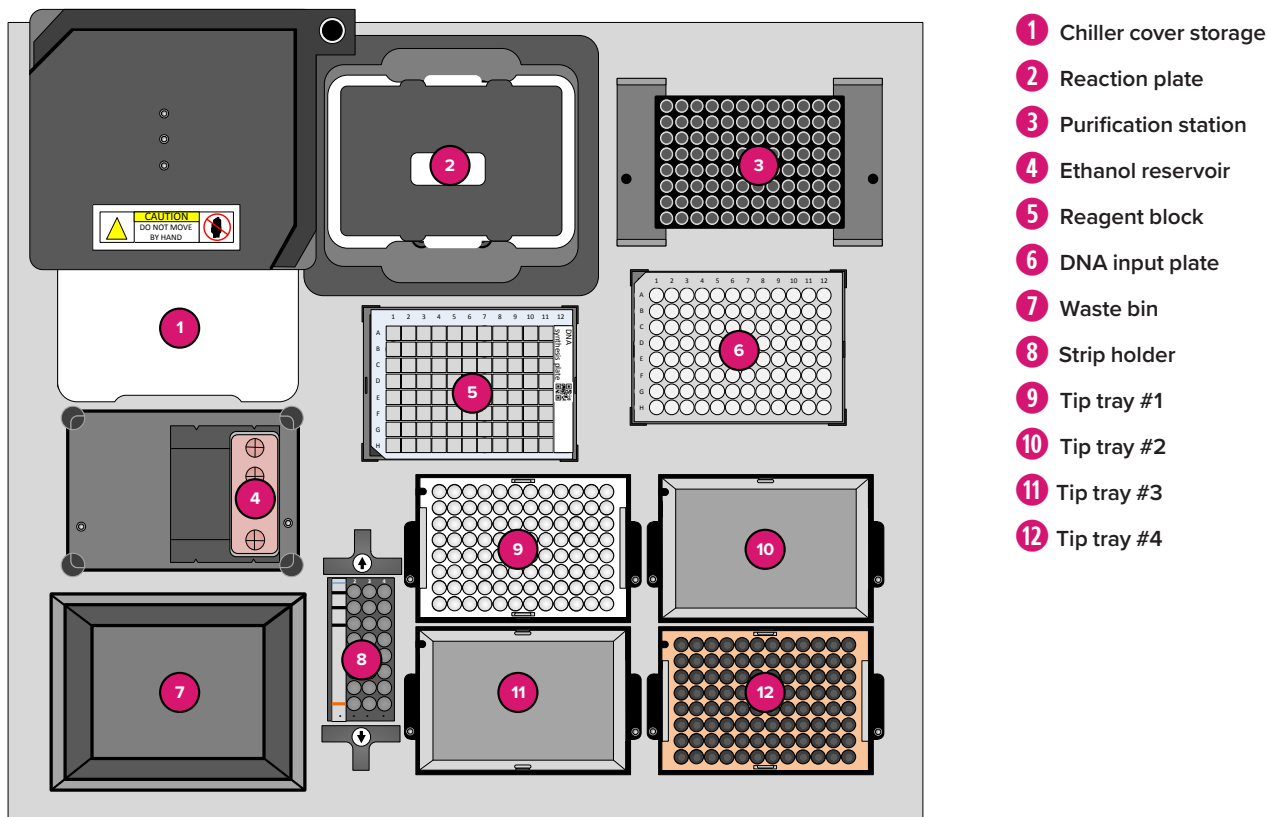
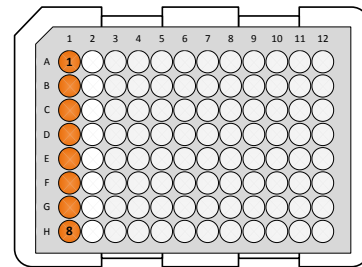

Figure 1. BioXp 3250 system layout without labware.
Figure 7. Reaction plate map after completed run for 8 reaction kit (Golden Gate and Gibson Assembly share the same well positions).
- Load the **cloning strip** in column one (Figure 4) of the strip holder (Position 8 in Figure 1).
3. Load the filled **DNA input plate** (Position 6 in Figure 1). Take care so that liquid is not dislodged from the bottom of the plate wells while loading the DNA input plate on the BioXp 3250 system. If liquid is dislodged, spin the plate again and re-load.
- Load 1 x 50 μL tip rack (Position 9 in Figure 1)
- Load 1 x 200 μL tip rack (Position 12 in Figure 1)
5. Load the empty reusable ethanol reservoir in the right-side of the holder and ensure the lid is snapped closed (Position 4 in Figure 1)
6. Load the empty **Reaction plate** (Position 2 in Figure 1). Ensure that the white plate carrier and the black metal plate cover are both present. Ensure the plate cover is oriented so the job type and QR code are facing you.
7. Load the **Reagent block** (Position 5 in Figure 1). Ensure the label is on the right-hand side of the plate and that the notch in the plate plastic is in the lower left corner. Make sure the plate is secured flush with the plate holder.
- Save the **Reaction plate** (Position 2 in Figure 1). This plate contains the final cloned DNA products, see Figures 7 and 8 below. Seal the plate before removing it from the white carrier to avoid dislodging the sample from the wells. Store the sealed **Reaction plate** at -20°C for up to six months.